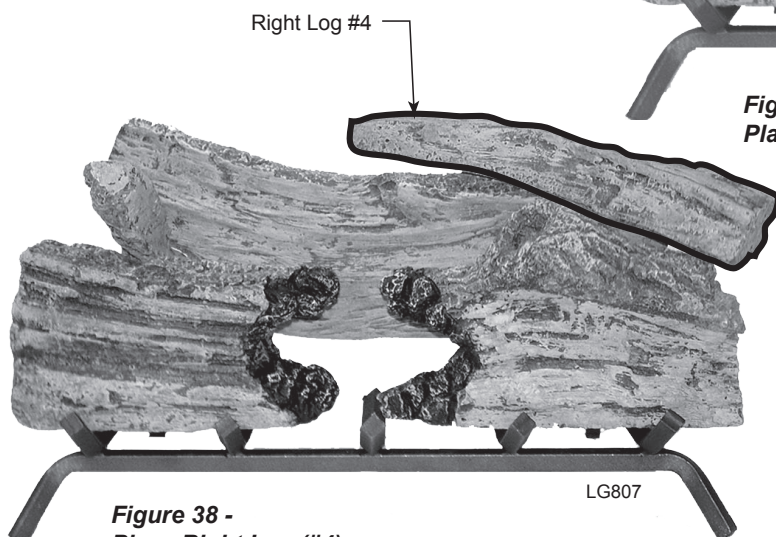

Figure 38 -
5. Place front end of Right Log #4 on right top of Log #1b. The back end of Log #4 rests to right hump on Log #3. *Figure 38*